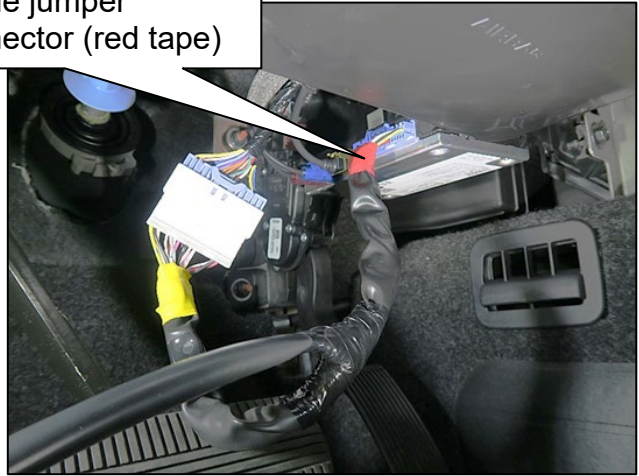

Figure 8
9. Connect the male jumper harness connector (red tape) to the TCU (Figure 8).